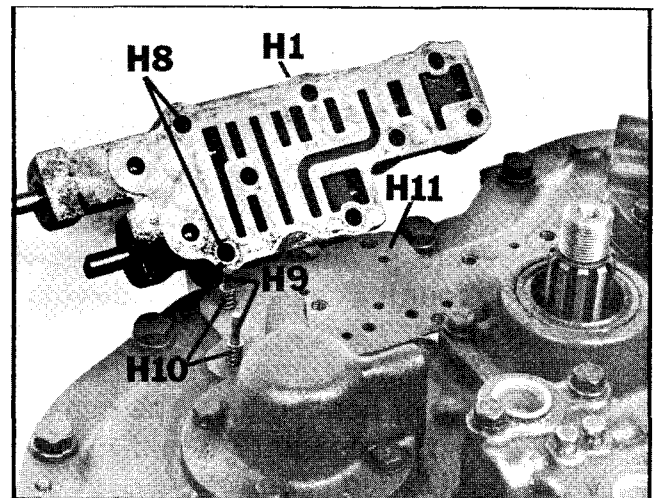

Figure 60
1. Install selector valve gasket (H-11), poppet balls (H-8), poppet pins (H-9) and poppet springs (H-10) and valve body (H-1) using eight lockwashers, eight bolts. Torque to 27-32 ft. lbs. (Figure 60).